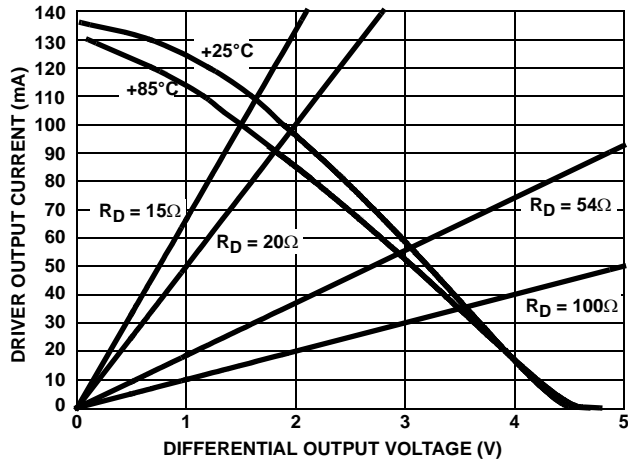

FIGURE 8. DRIVER OUTPUT CURRENT vs DIFFERENTIAL OUTPUT VOLTAGE
- See Figure 8 for more information, and for performance over temperature.
Another advantage of the large  $V_{OD}$  is the ability to drive more than two bus terminations, which allows for utilizing the ISL315XE in "star" and other multi-terminated, "non-standard" network topologies. Figure 8, details the transmitter's  $V_{OD}$  vs.  $I_{OUT}$  characteristic, and includes load lines for six (20 $\Omega$ ) and eight (15 $\Omega$ ) 120 $\Omega$  terminations. The figure shows that the driver typically delivers 1.65/1.5V into 6/8 terminations, even at the worst case temperature of +85°C. The RS-485 standard requires a minimum 1.5V  $V_{OD}$  into two terminations, but the ISL315XE delivers RS-485 voltage levels with 3X to 4X the number of terminations.